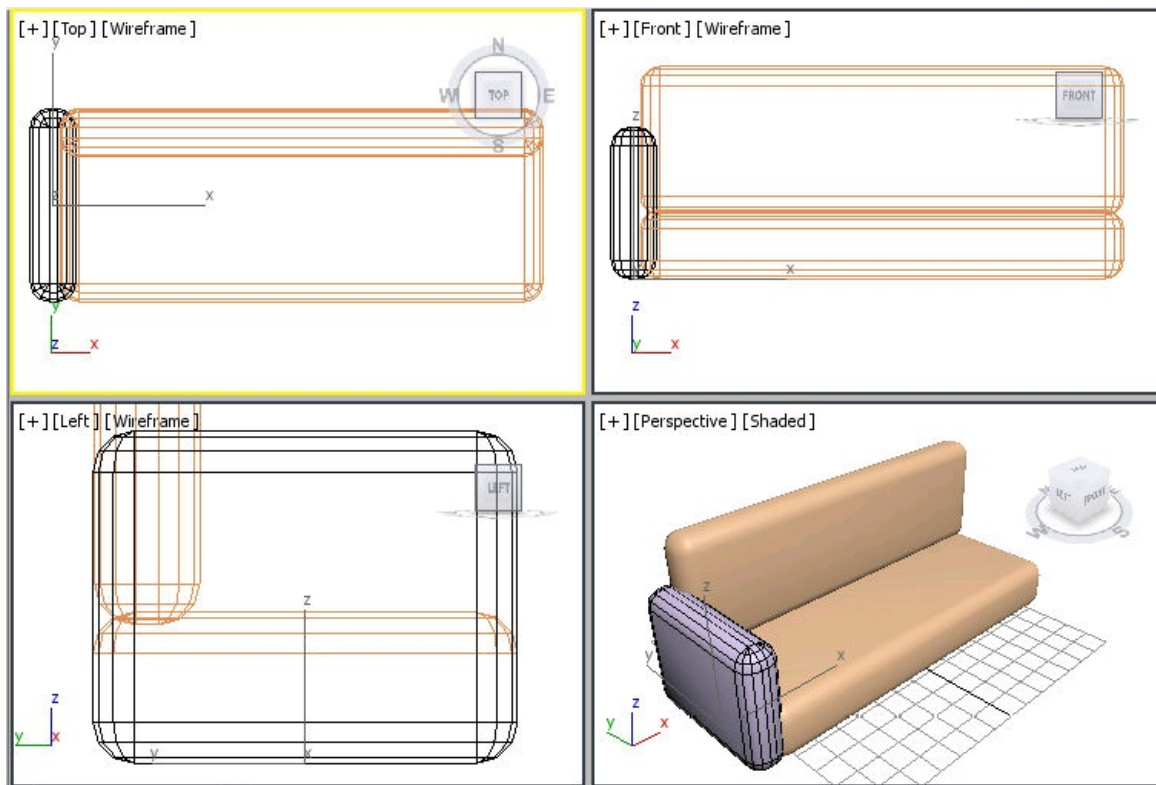

Figure 3-22 The left side geometry displayed in the viewports
2. Choose the **Create** button; another chamfer box is created, as shown in Figure 3-22.